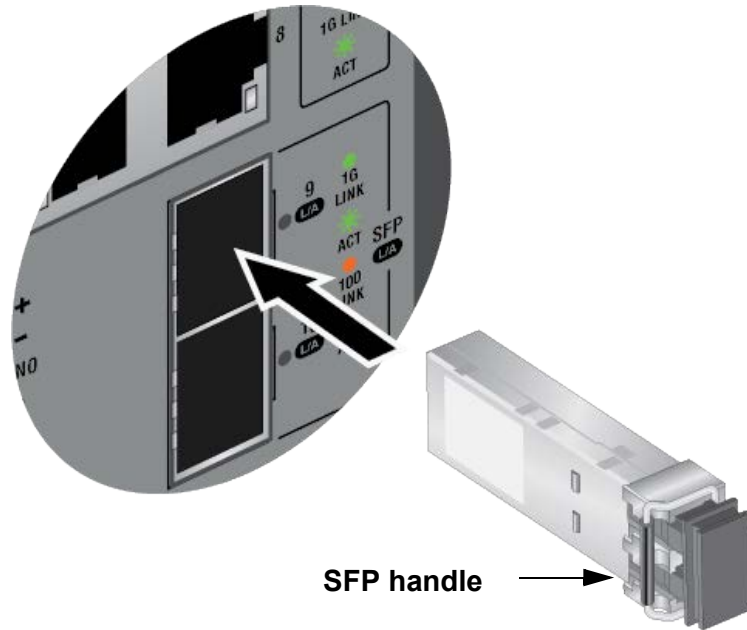

Figure 41. Installing a Transceiver
3. Position the transceiver with its handle on the left and slide it into the port until it clicks into place. Refer to Figure 41.